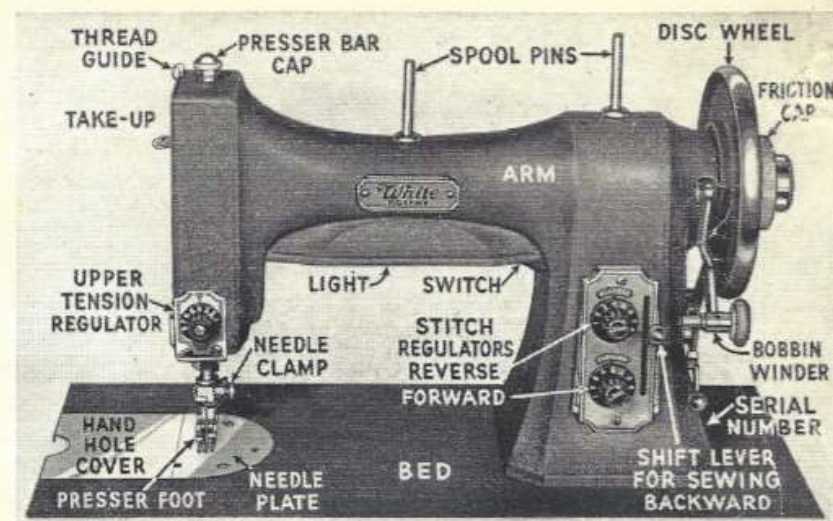
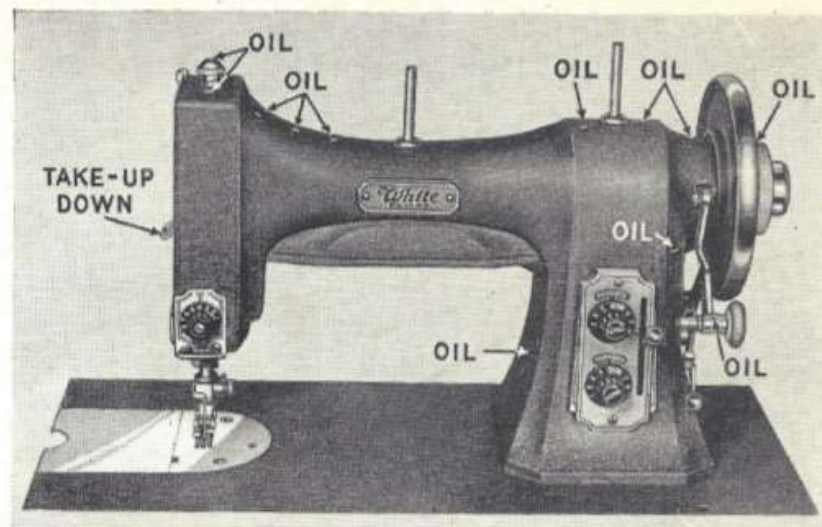
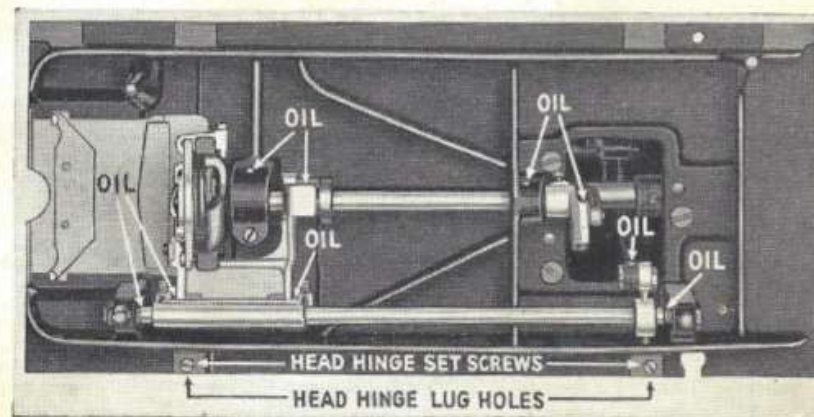
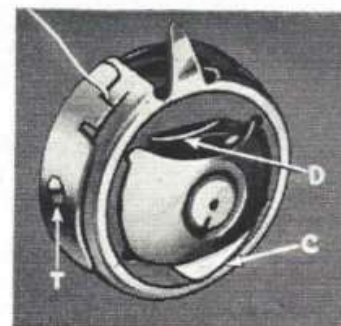

FIGURE 1
FIGURE 3
FIGURE 4
FIGURE 13
See Fig. 1. In the accompanying illustration (Fig. 1) the principal parts of this White Rotary Electric are designated by their names. Study this picture carefully to familiarize yourself with the names and locations of these functional parts which will be referred to throughout this manual.
Keep the machine well oiled, applying a drop of oil at points shown by arrows in Figs. 3 and 4. Before starting to oil the machine it is very important that the disc wheel be turned by hand until the take-up (Fig. 1) is at its **lowest point**. To reach points indicated in Fig. 4, tip the sewing head back on its hinges.
See Fig. 10. Remove hand hole cover (Fig. 1) by lifting it up at finger hole, permitting you to reach down through hole to shuttle. Hold bobbin case by lips C and D (Fig. 13) with first finger and thumb of left hand, at the same time depressing lip D with thumb. Reach down through hole and slip bobbin case into place over center pin of shuttle, with projecting tongue upright. Push in as far as case will go and release thumb pressure on lip (D), allowing it to snap upward into place, holding the bobbin case in position.
See Fig. 10. After removing hand hole cover, reach down with left hand and take hold of bobbin case by lips C and D (Fig. 13) with first finger and thumb. A slight pressure with the thumb will depress lip D and the case may be readily removed.
Always stop the machine with take-up (Fig. 1) at its **highest point**. Raise the presser foot with the lifter. Holding the sewing with the left hand pull it directly toward the back of machine, keeping the top thread in the presser foot slot, to avoid bending the needle. Then lift the sewing and draw the threads, together, over the thread cutter (Fig. 1) pulling downward. Both threads will be cut the proper length to again commence sewing.
See Fig. 13. Tension on the lower thread is regulated by adjusting screw (T) in bobbin case. To **increase** the tension **tighten** the screw; to **decrease** tension **loosen** the screw.